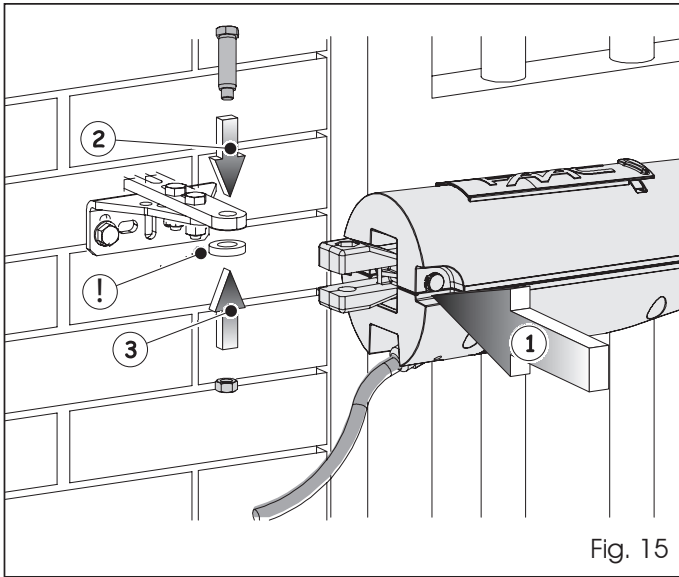

Fig. 15
- Secure the operator to the rear bracket using the supplied bolt, as indicated in Fig. 15.